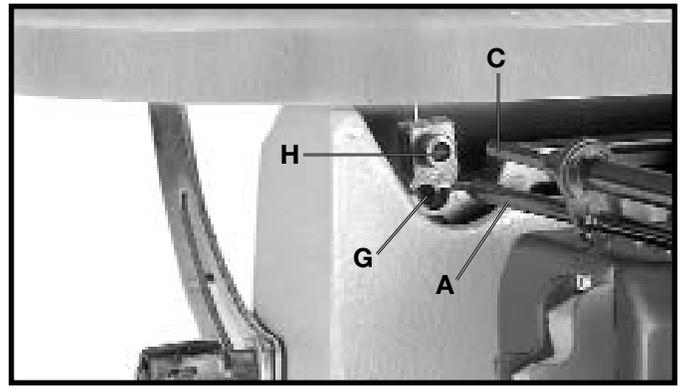

Fig. 16
6. Insert long end (A) Fig. 16, of quickset blade changing wrench into hole (G) in lower blade holder. This will automatically align wrench (C) with blade holder screw (H).